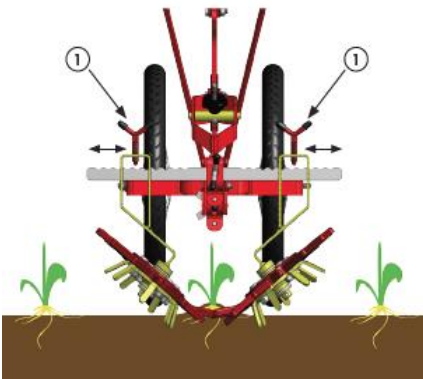

Figure 2. Adjusting the angle of the Finger Weeders.
1. Adjust the lateral position of the Finger Weeders using the Y-bolts. Ensure that the two wheels are at matching angles and distance from the center of the mounting bar. See figure 2.